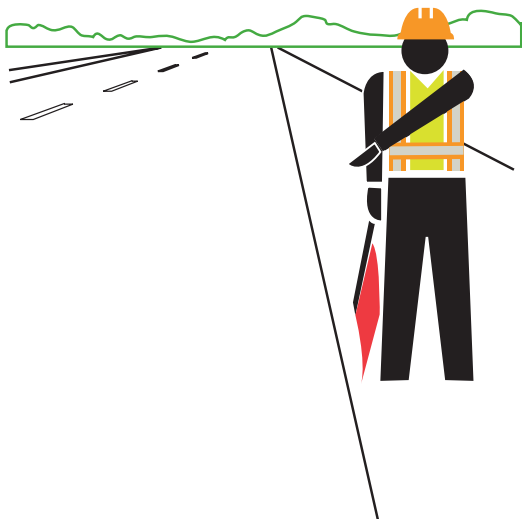

Figure 16
- Lower the flag to a 6 o'clock position. With your free arm, motion the road users to proceed. **(Figure 16)**